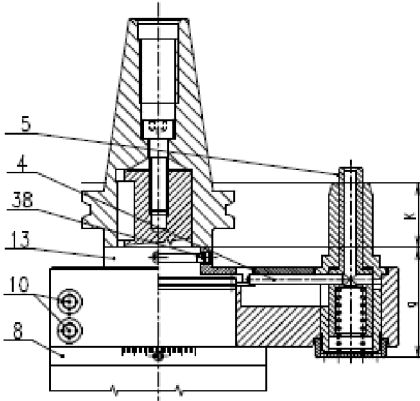

Fig. 6
1. Take down the scale (Pos. 8) from the head body (see page 10, fig. 6)